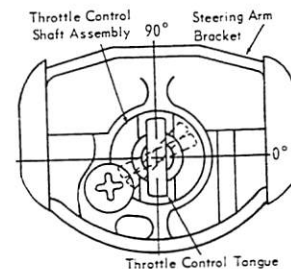

Figure 4. Throttle Shaft Assembly
2. When engaging the throttle shaft into the throttle socket, the magneto must be retarded against the idle stop screw. The assembly then must be installed with the tongue in a position between zero and 90°. (Figure 4)